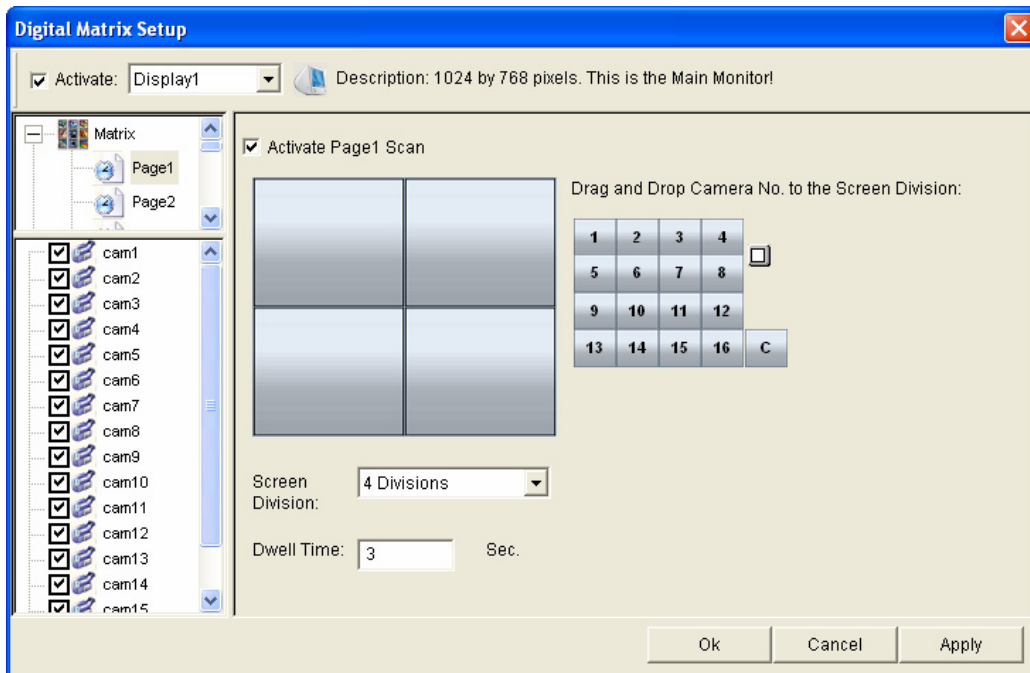

Figure 3-36
4. After above settings, click the **Matrix** icon and return to Figure 3-36.